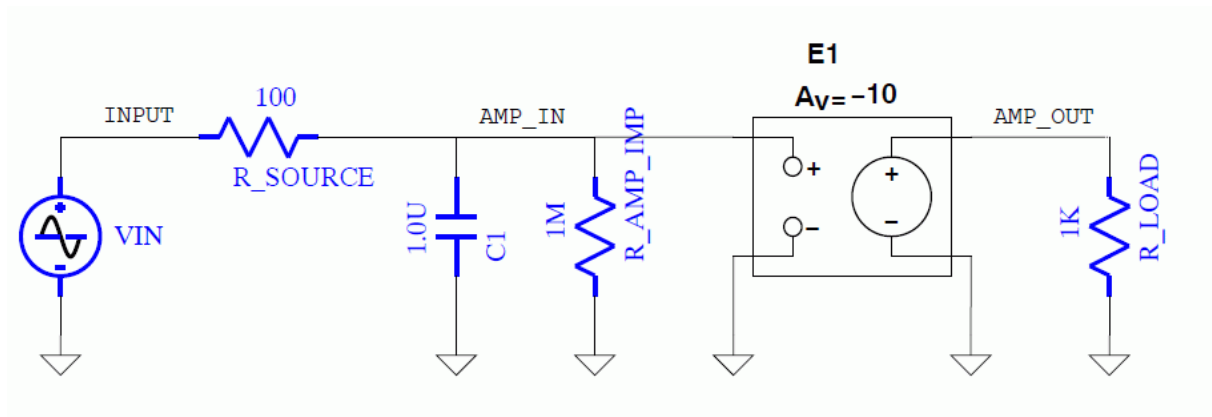

Figure 24.1: Example Circuit 1
Although different SPICE-based simulators may include various enhancements to the basic version from the University of California at Berkeley, most use a similar approach in describing circuits. This approach involves capturing the information present in a circuit schematic in the form of a text file that follows a defined format. This format requires the assignment of alphanumeric identifiers to each circuit node, the assignment of component identifiers to each circuit device, and the definition of the significant parameters for each device. For example, the circuit description below shows the equivalent input file for the circuit shown in Figure 24.1.
3.1.2.2.2 Subcircuits In some applications, describing a device by imbedding the required elements in the main circuit file, as is done for the amplifier in Figure 24.1, is not desirable. A hierarchical approach may be taken by using subcircuits. An example of a subcircuit statement is shown in the second circuit file: